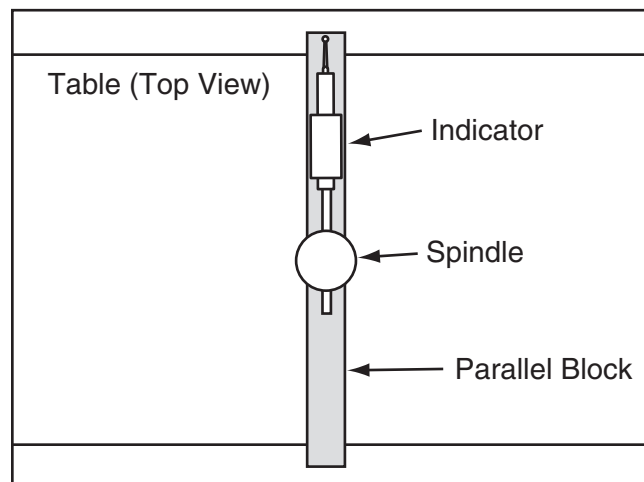

Figure 72. Parallel block and indicator positioned for the Y-axis measurement (top view).
8. Place the parallel block directly under the spindle and across the width of the table, as illustrated in **Figure 72**.
9. Rotate the spindle so the indicator point rests on the parallel bar, as illustrated in **Figure 72**, then zero the dial.